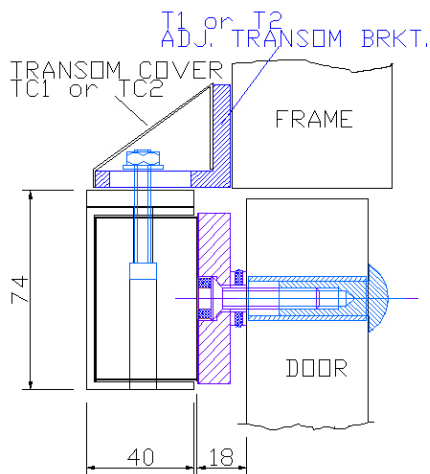

fig. 3 Outward opening door with no 'reveal'
- When using the adjustable transom Bracket in fig. 3 fit the Armature plate first paying careful attention to where the Magnet / Bracket will be positioned. The centre line position in both planes is important to make sure magnet and armature are in full contact. See also 5) below for door hole sizes.